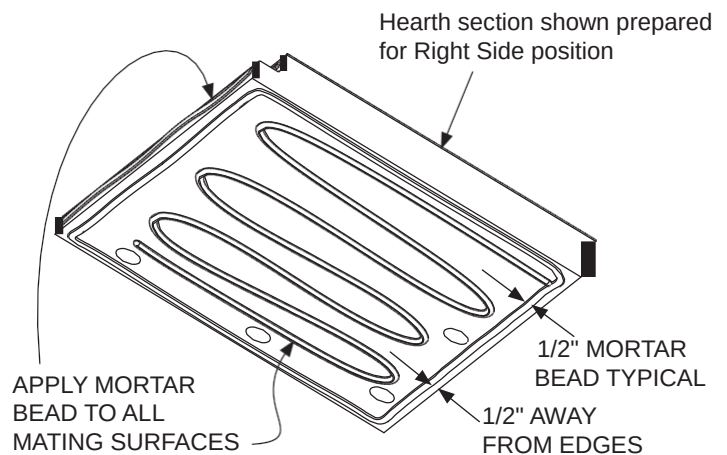

**Figure 36 - Preparing Hearth Base**
2) Mix a batch of mortar and prepare Right Side Hearth bottom surface to be bonded as shown in Figure 36.